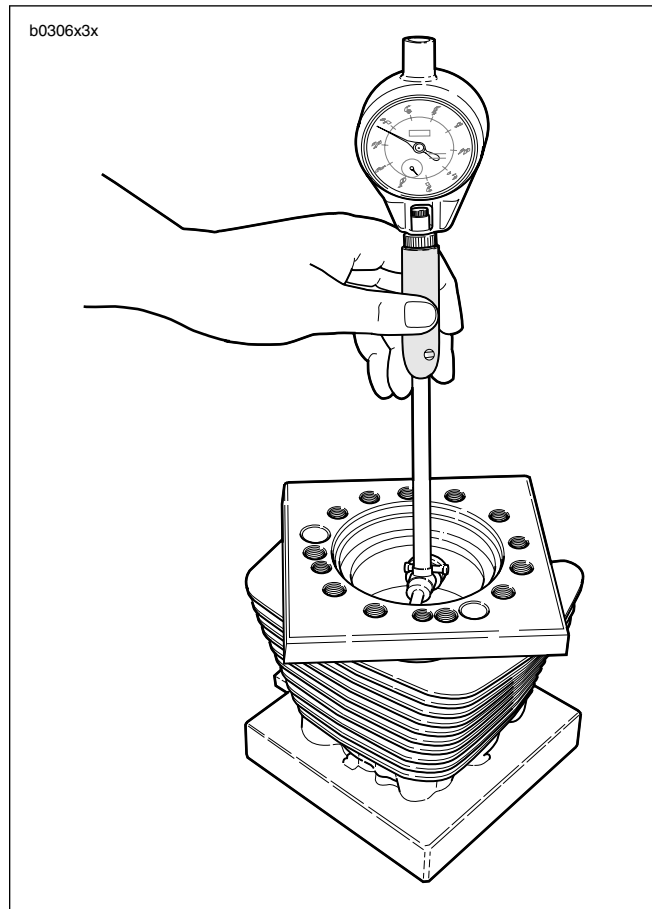

Figure 3-91. Measuring Cylinder Bore Using Torque Plates (Part No. HD-33446B)
2. See Figure 3-91. Install a head gasket, base gasket and o-rings, and CYLINDER TORQUEPLATES (Part No. HD-33446B) and XL EVOLUTION TORQUE PLATE BOLTS (Part No. HD-33446-86). Tighten the bolts using the same method used when installing the cylinder head screws. See 3.6 CYLINDER HEAD.
3. See Figure 3-91. Take cylinder bore measurement in ring path, starting about 0.50 in. (12.7 mm) from top of cylinder, measuring from front to rear and then side to side. Record readings.